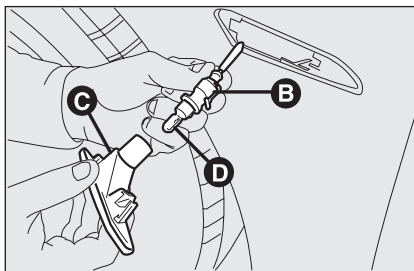

fig. 28
- turn the bulb holder **B-fig. 28** counterclockwise and remove it from lens **C**.